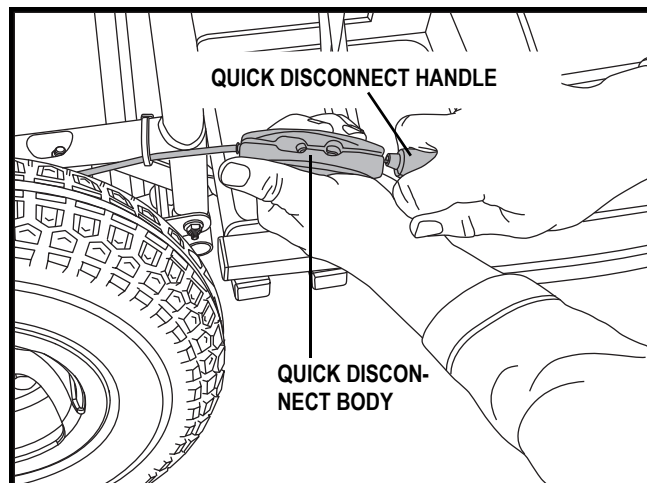

Figure 24. Quick Disconnect Handbrake Cable
1. Locate the quick disconnect body. See figure 24.